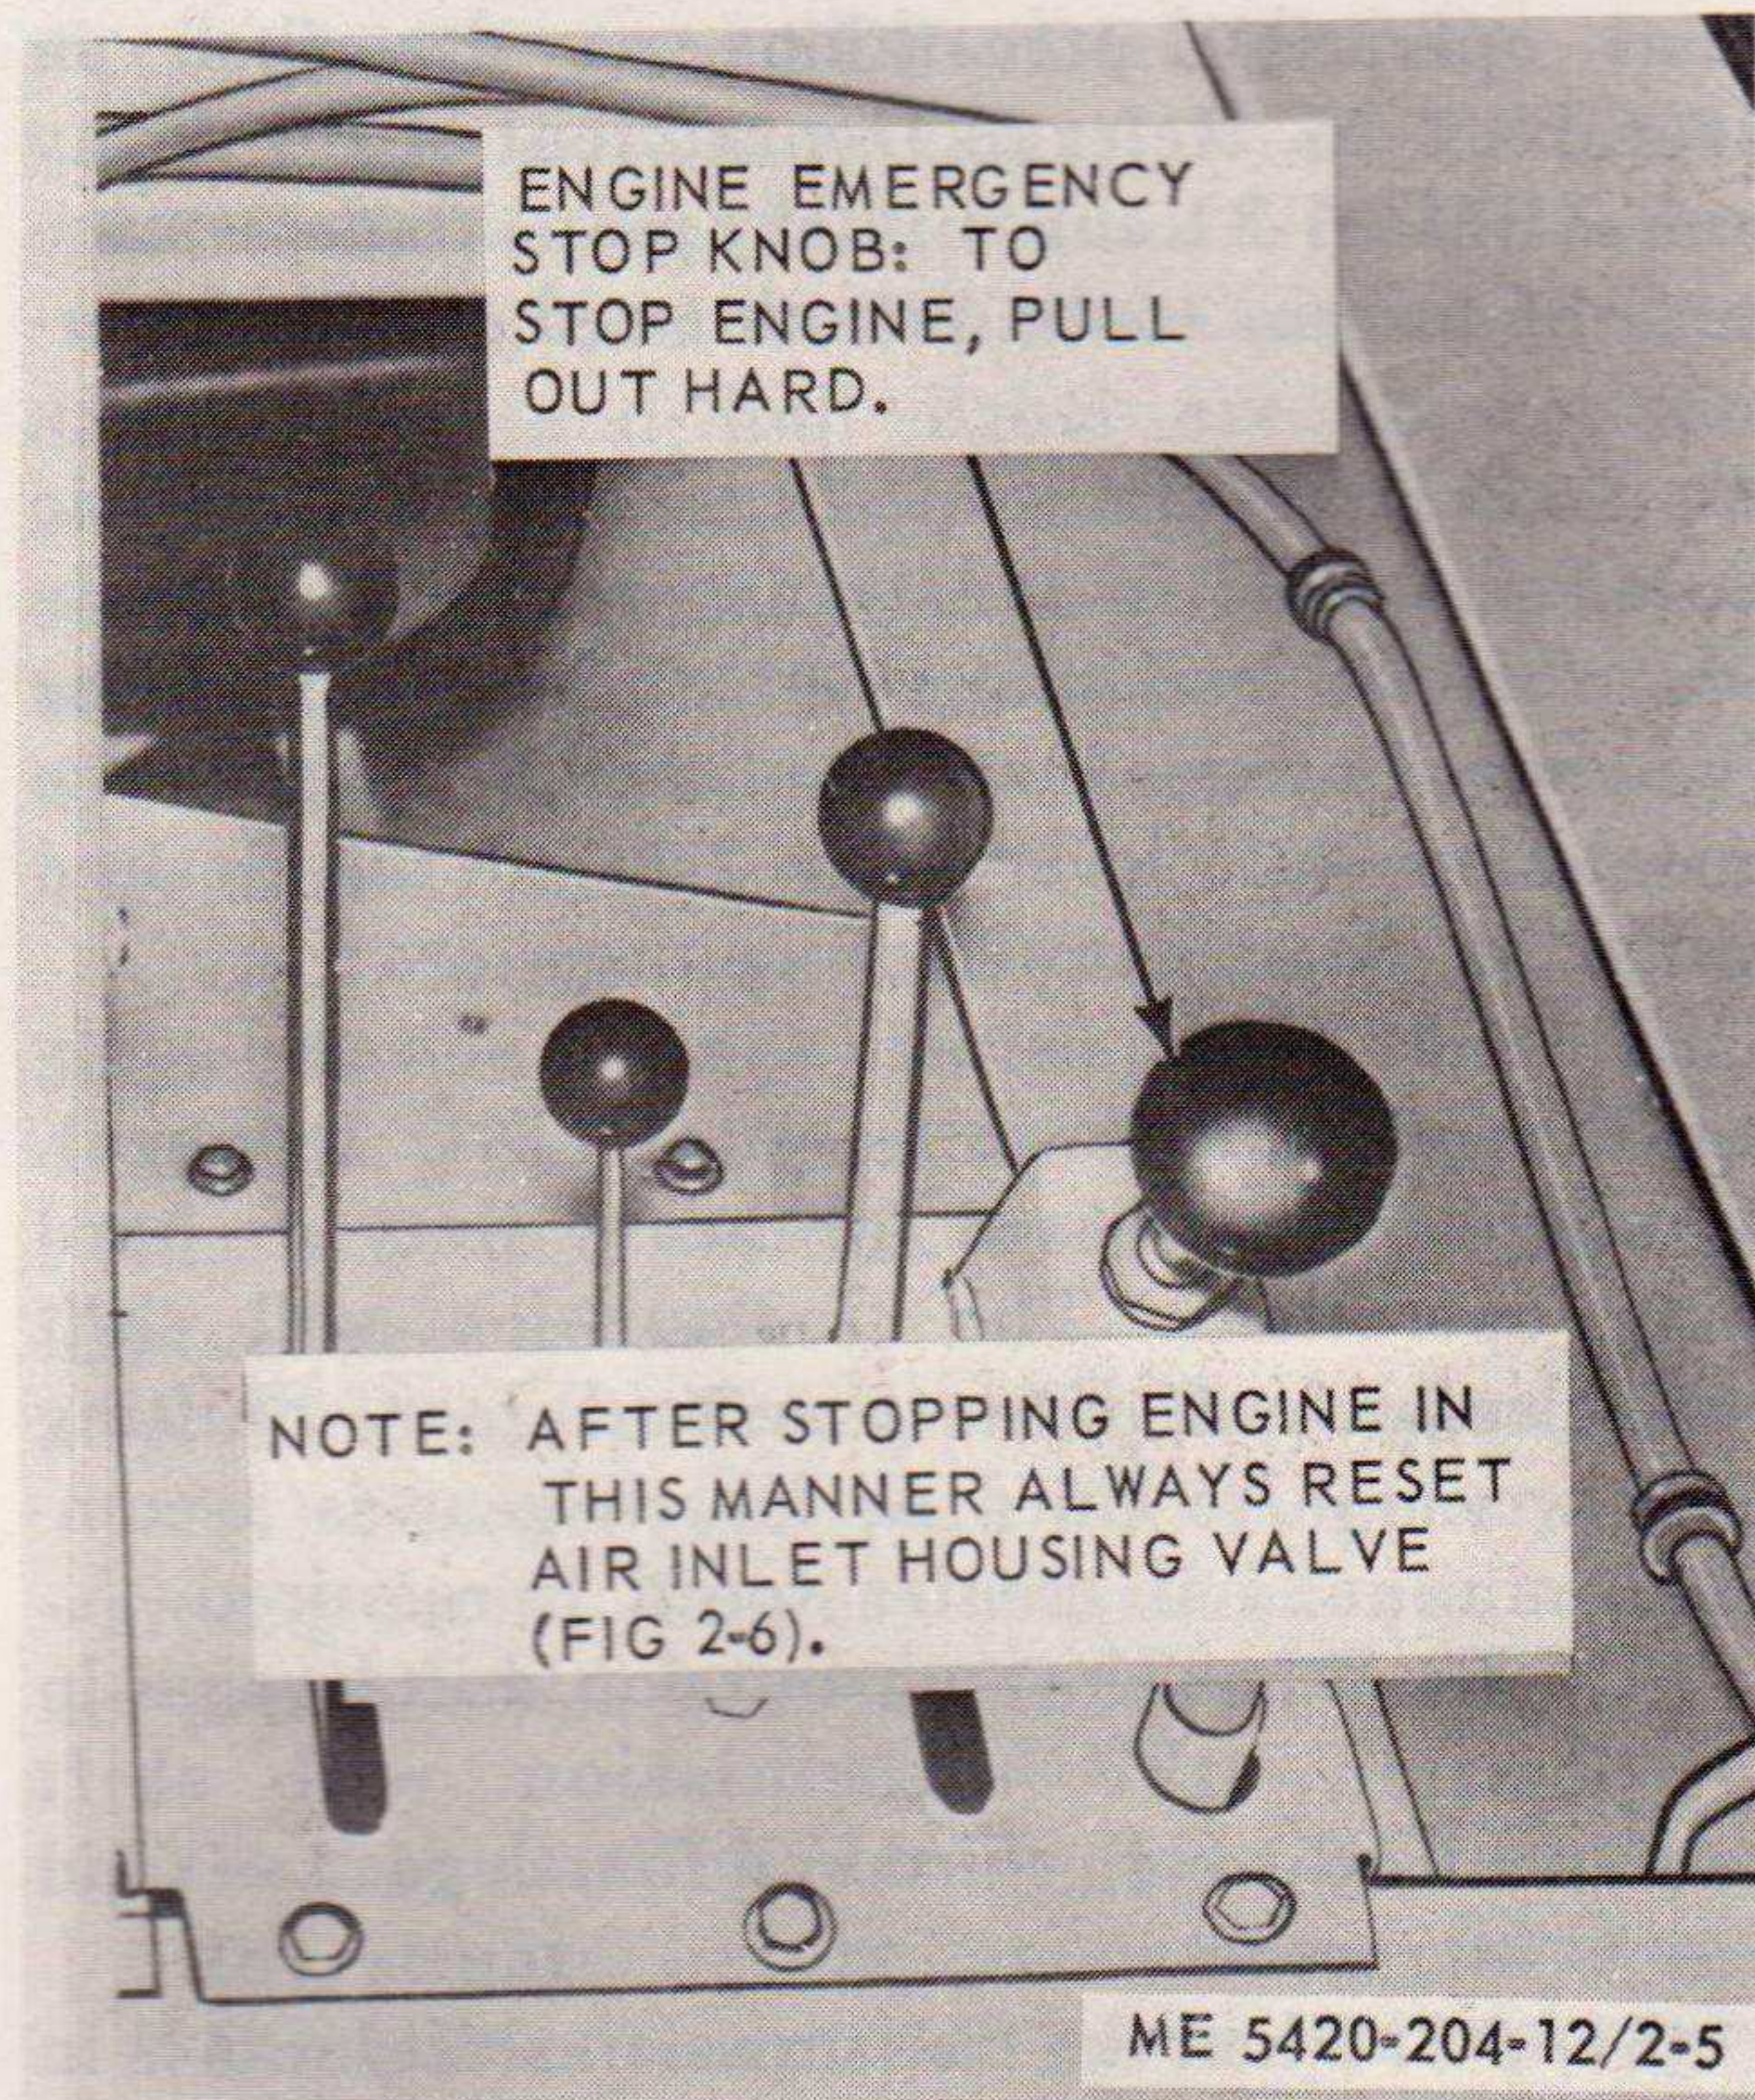

Figure 2-5. Emergency engine stopping.
(1) Refer to figure 2-5 for emergency stopping instructions.